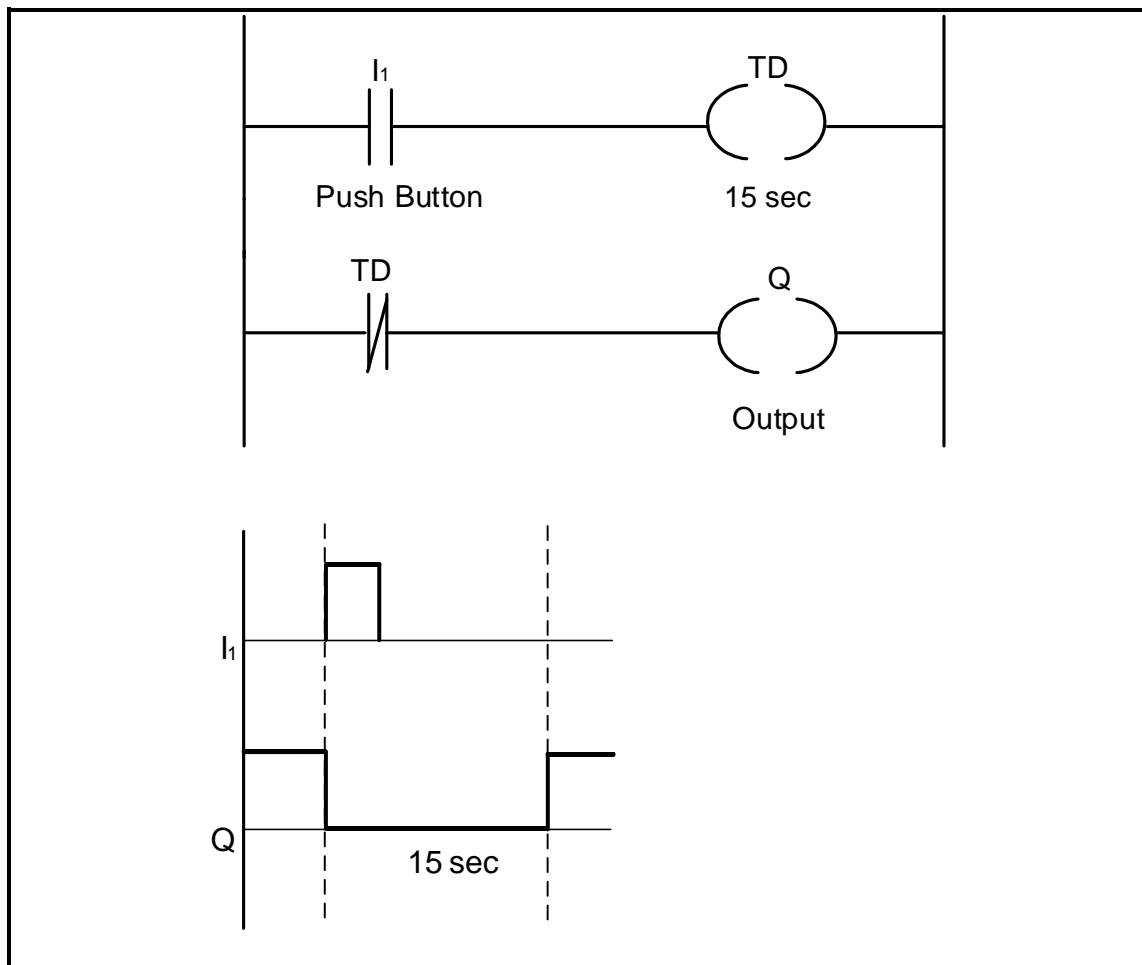

FIGURE 6.6: PLC LOGIC PROGRAM WITH DELAY TIMER
- 6.6 FIGURE 6.6 below shows a PLC logic program with a time delay of 15 seconds. Answer the questions that follow.